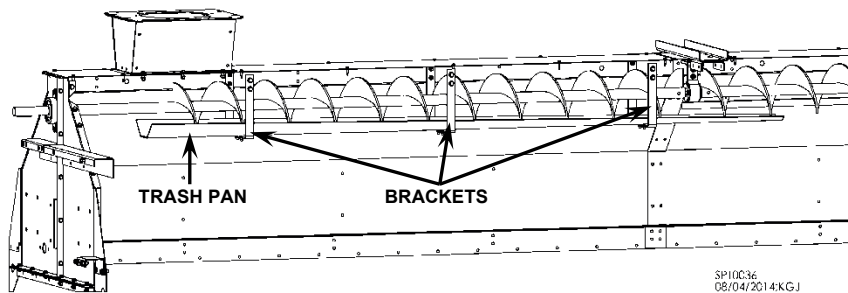

Fig. 2-22 – Trash pan & bracket installation
1. Bolt trash pan brackets into wet bin on filling end of dryer. Bolt trash pan to trash pan brackets. See Fig. 2-22.